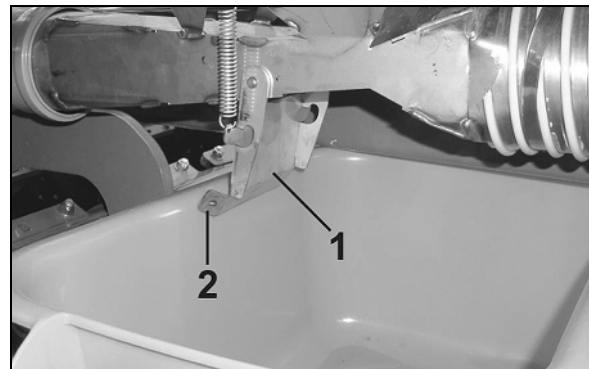

Fig. 71
4. Open the injector sluice (Fig. 71/1) on all metering units.
**Danger of squeezing when opening and closing the injector sluice (Fig. 71/1)!**
**Hold the injector sluice only on the strap (Fig. 71/2), danger of injury when the sprung loaded injector sluice flap shuts (Fig. 71/1).**
**Never ever reach with your hand between the injector sluice flap (Fig. 71/1) and the injector sluice.**
5. Take the calibration crank (Fig. 71/1) out of its transport retainer next to the star wheel.
6. Put the calibration crank (Fig. 71/1) on the star wheel (Fig. 71/2).
7. Turn the star wheel with the aid of the calibration crank (Fig. 71/1) in counter clock-wise direction until all compartments of the metering wheels are filled with seed and the seed evenly flows into the seed collecting trays.
8. Close the injector sluice flap (Fig. 71/1) with special care (danger of squeezing, see danger advice [Fig. 71
10. Open the injector sluice (Fig. 71/1).